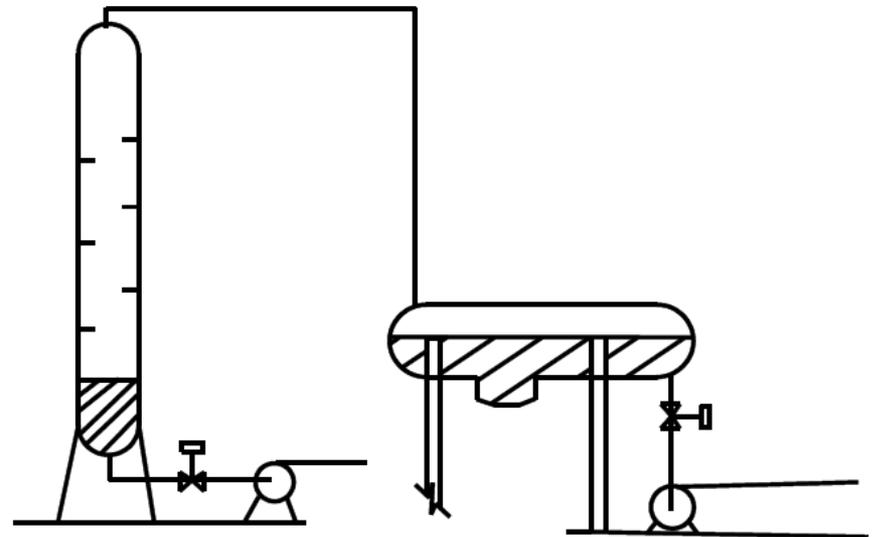

Figure 2. Fail-Safe Emergency Block Valves.
- Install a FSEBV (fail safe emergency block valve) between the tower bottoms outlet and bottoms pumps (Figure 2). Situate the valve